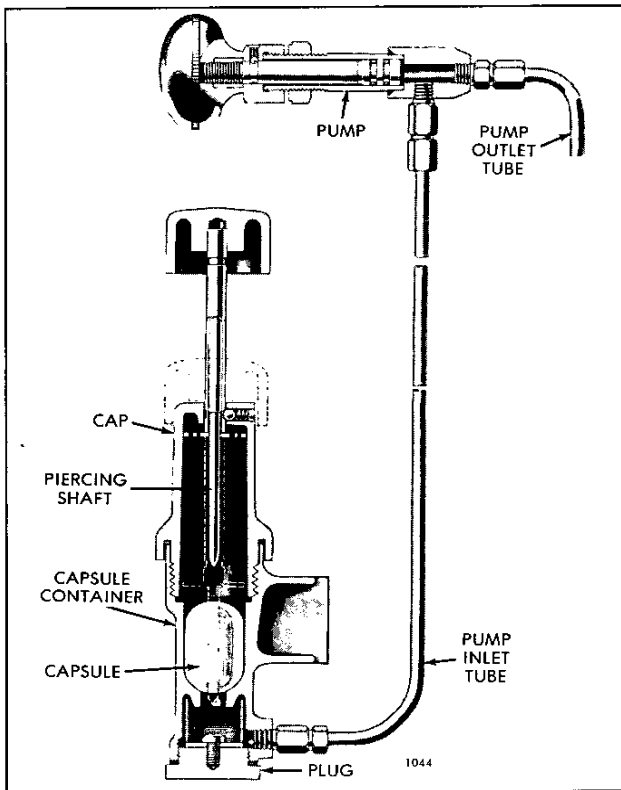

Fig. 2 - Fluid Starting Aid
The fluid starting aid is designed to inject a highly volatile fluid into the air intake system to assist ignition of the fuel at low ambient temperatures. It consists essentially of a pump and nozzle for injecting the fluid into the air intake, and a suitable container for the fluid (Fig. 2). The fluid is contained in suitable capsules to facilitate handling.
1. Refer to Fig. 2 and remove the cap from the capsule container. Insert a fluid capsule in the container.